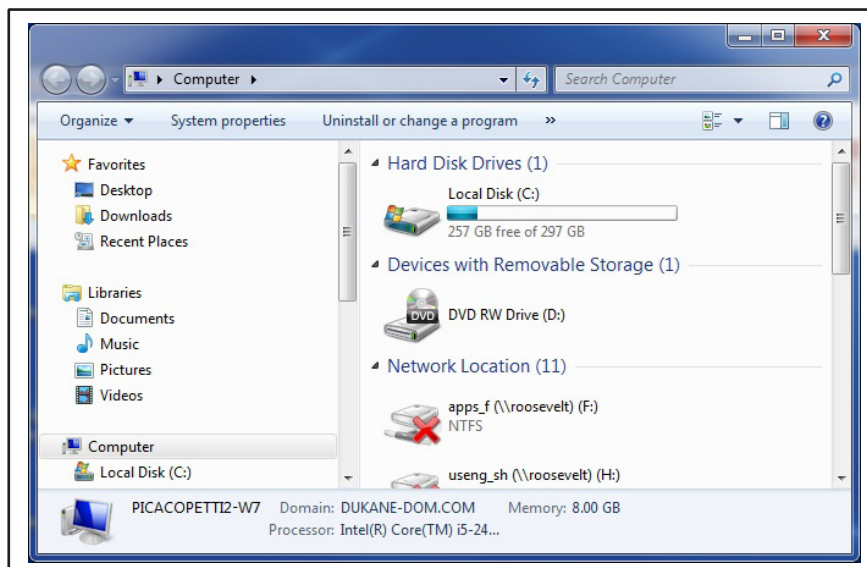

Figure 2-8 Computer Window (Windows 7)
2. The **Computer** window appears. An example is shown in Figure 2-8 below.